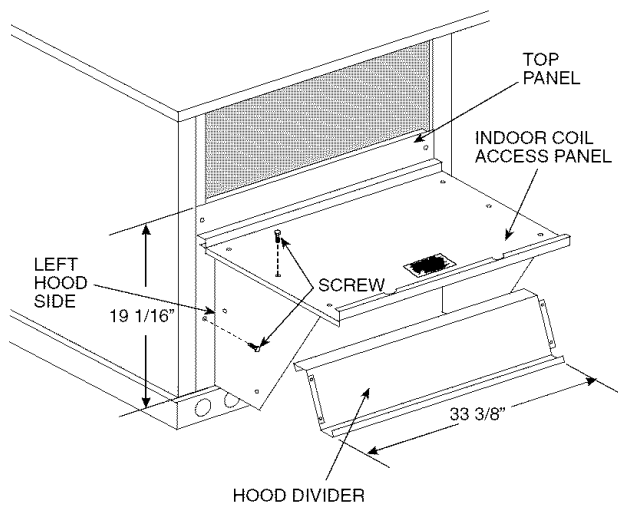

Fig. 30 — Outdoor-Air Hood Construction
4. Swing out indoor coil access panel and insert the hood sides under the panel (hood top). Use the screws provided to attach the hood sides to the hood top. Use screws provided to attach the hood sides to the unit. See Fig. 30.
6. Insert the hood divider between the hood sides. See Fig. 30 and 31. Secure hood divider with 2 screws on each hood side. The hood divider is also used as the bottom filter rack for the aluminum filter.